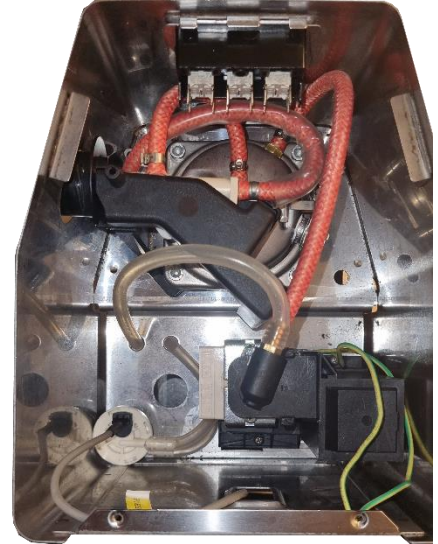

Fig. 6.3
- Take the provided new hose from the package and install it to the second bottom pipe on the sensor. Push it well all the way. Route the hose around the big hole and insert it in the small right hole. Take the upper hose and insert it in the second small left hole (fig. 6.3)